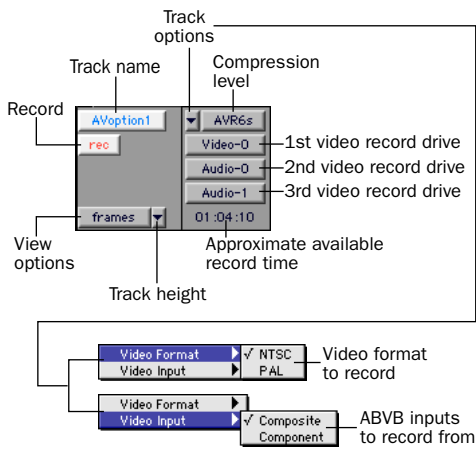
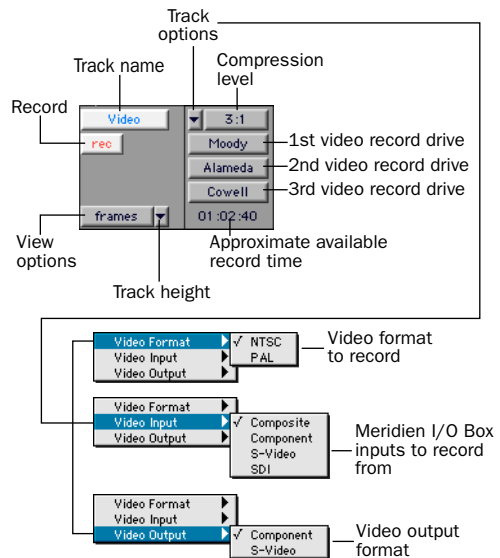

Figure 3. Movie Track controls (AVoption)
Figure 4. Movie Track controls (AVoption XL)
- 1 On the Movie Track, click the Track Options pop-up. See Figure 4 on page 33.
- 2 Select a video format by clicking the Track options button (see Figure 3 and Figure 4), then selecting Video Format. You can select NTSC or PAL format.